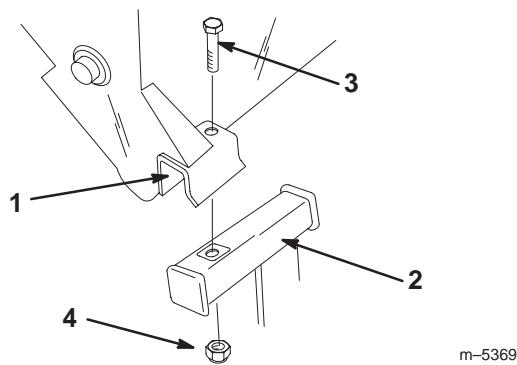

Figure 5
3. Remove the brackets and fasteners from the seeder box mounting pockets (Fig. 5).
7. Install the seeder box over the brackets (Fig. 5).
- 8. Secure the seeder box to the mounting brackets using 2 bolts (M12 x 60) and locknuts (M12) (Fig. 5).